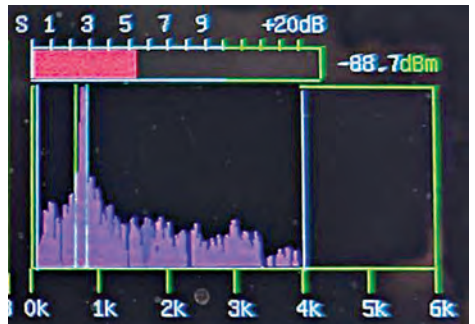

Figure 4. Audio plot with tone centers in the Sweet Spot.
- **CW decoder.** We view the T41 CW decoder as a learning tool. Our guess is that a very high percentage of Sprat readers know and use CW. Alas, that's not the case in the US. A good CW decoder gives both audio and visual support for learning CW. The decoder in the T41 is a little unusual in that its algorithm uses the Goertzel algorithm, the hypergeometric mean for adaptive coding via a bimodal histogram, correlation analysis, and a binary search tree to actually find and display the letter. Figure 4 shows the audio plot window with the CW Decoder Sweet Spot indicators. When the decoder is active, the audio plot draws two vertical lines centered on 768Hz. (Because the decoder was turned off in the main picture the Sweet Spot indicators are not visible). This tone locks the decoder for best performance. We think the T41 can help new hams learn Morse code more effectively.